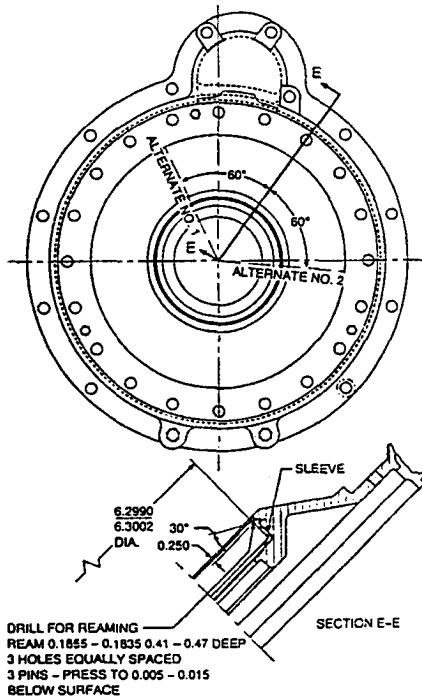

Figure 149.1. Location of sleeve retainer pins
(1) Mark the locations of the three original pin holes, in the sleeve bore, on the bolt hole circle of the housing.
(2) The pin holes to be drilled for the new sleeve should be located 60 degrees clockwise or counterclockwise from the original pin holes. The two alternate pin locations are indicated by the broken line in Fig. 149.1.
(4) Using a 1.1855-0.1875 drill, drill a hole 0.410 to 0.470-inch deep at one of the alternate locations chosen. This hole should be 0.250-inch inward from the cover mounting surface and at a 30 degree angle to the cover mounting surface. Refer to Figure 149.1.
(5) Drill the remaining two dowel pin holes, spacing them 120 degrees apart.
(6) Install the three pins (Fig. 149.1), driving them 0.005 to 0.015-inch below the sleeve surface.
(7) Line bore sleeve 18 (Fig. 373, fold-out 2) to 6.2990-6.002 inches diameter, with a finish of 100 RMS (Fig. 149.1).